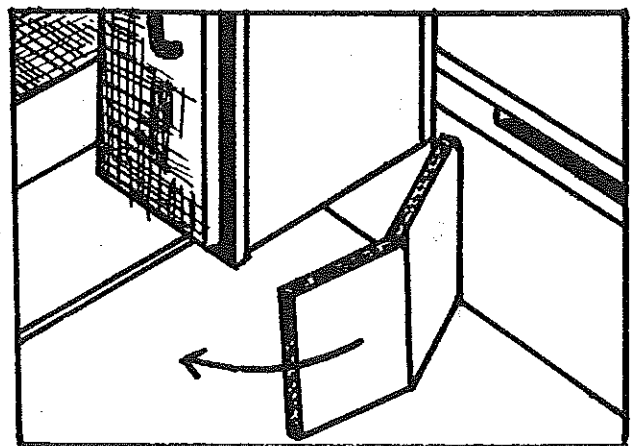

FIGURE 17
22. While holding the wardrobe in a vertical position, unfold the wooden rest from its storage position against the interior trailer wall and slide it under the wardrobe. See Figure 17.